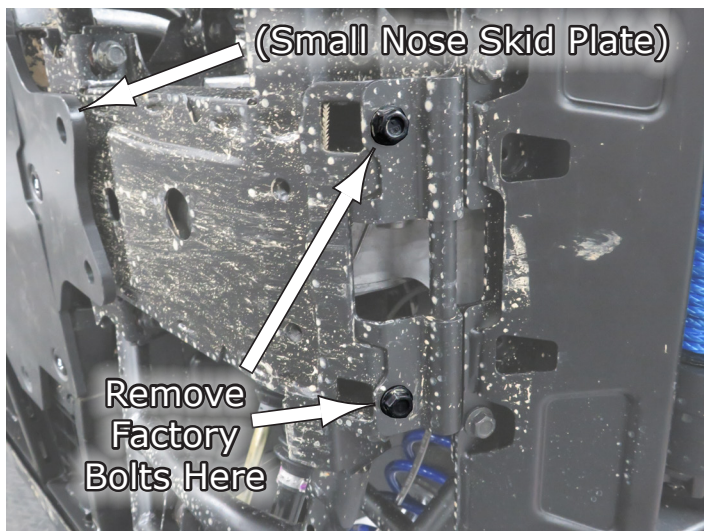
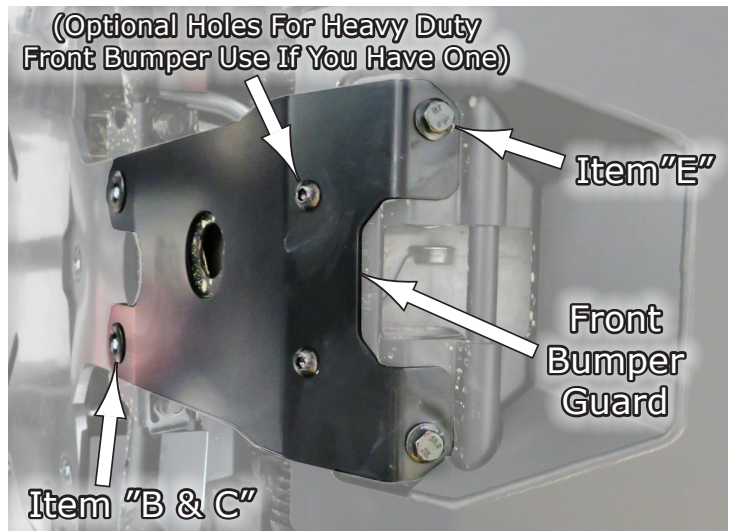

Fig.12a
Fig.12b
12. After the small nose skid plate is on, you will now be installing the **Metal Front Bumper Guard** in front of it. To do this you first need to remove the two factory bolts in the front bumper area as shown in Fig.12a. Then install the Front Bumper Guard Using (2) Item "E" in the front and (1ea) Item "B" & "C" in each hole as shown in Fig.12b. There is also another set of holes not required for this installation, but have been included in the part to accommodate using a Heavy Duty Bumper, if you have one.